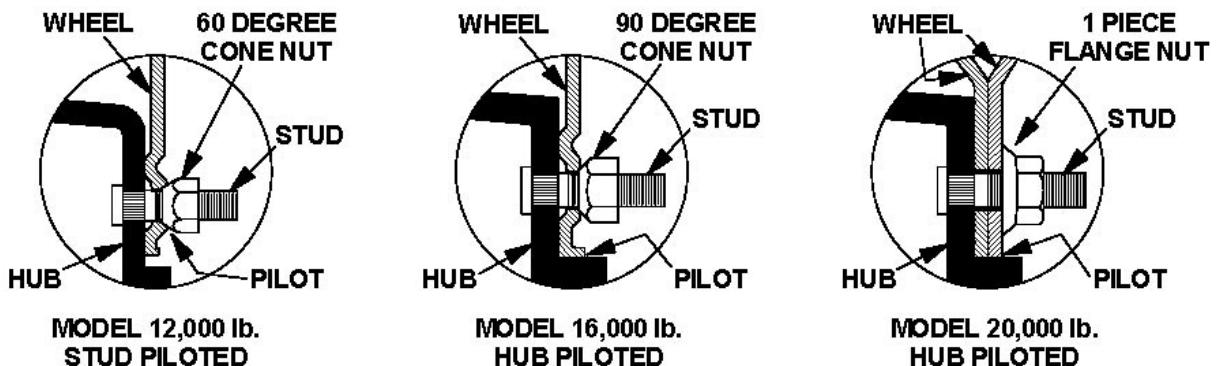

Figure 8.6 – Trailer Wheel to Hub Fit
- 8.15. **Trailer Wheels:** Verify that the wheel to hub fit is correct and that the proper wheel lug nuts are being used. See Table 8.4 for lug nut type and Figure 8.6 for wheel to hub fit.